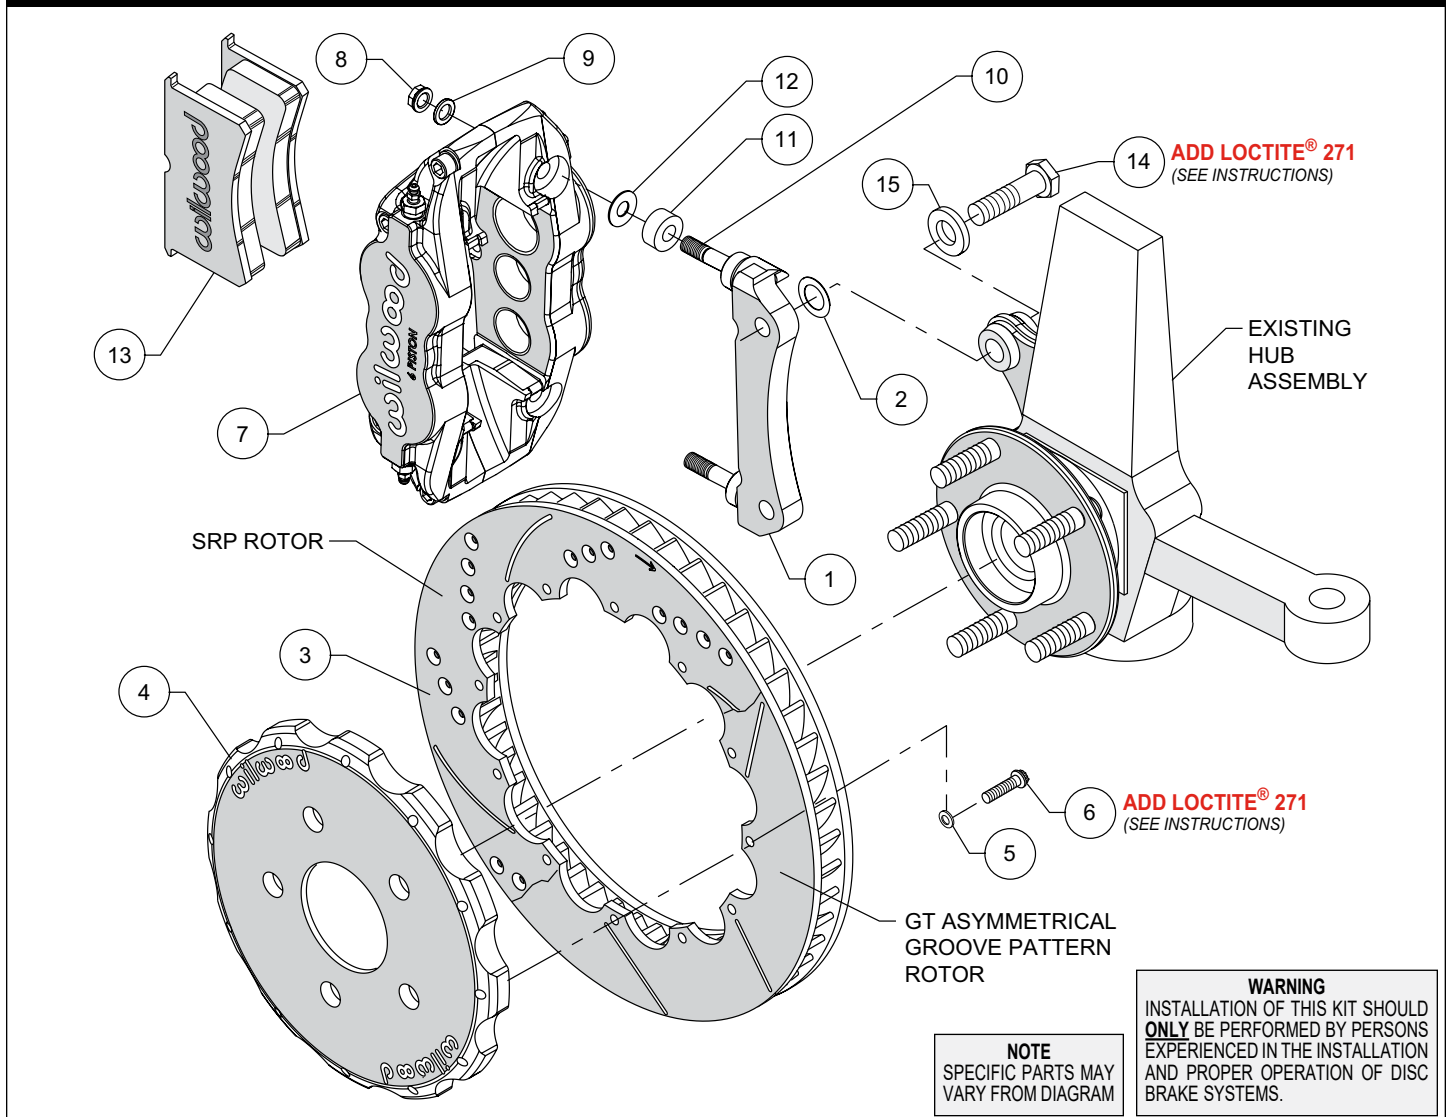
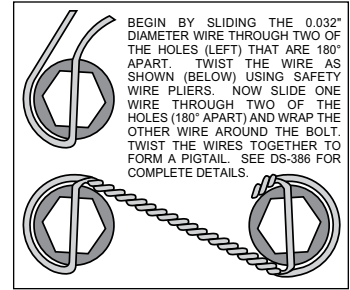

Figure 1. Typical Installation Configuration
Figure 3. Safety Wire Diagram
NOTE: Numbers in parenthesis refer to the parts list and Figure 1 on the preceding pages.
- The caliper mount bracket (1) should initially be installed with clean, dry threads on the mounting bolts. Orient the bracket, as shown in Figure 1 and install using bolts (14) and washers (15). Initially place one .029" thick shim (2) on each bolt between the bracket and upright, Figure 1. Temporarily tighten the mounting bolts. **NOTE:** The bracket must fit squarely against the mount bosses on the upright. Inspect for interference from casting irregularities, machining ridges, burrs, etc. Later, after the caliper alignment has been checked, the mount bolts will be secured using red *Loctite*® 271.
- Orient the rotor (3) and the hat (4) as shown in Figure 1 and Photo 1. Attach rotor to hat using bolts (6) and washers (5). Apply red *Loctite*® 271 to the bolt threads and torque to 155 in-lb using a criss-cross pattern. For an added measure of security, the bolts may be safety wired using standard 0.032 inch diameter stainless steel safety wire as shown in Figure 3. Refer to Wilwood's data sheet DS-386 (available at www.wilwood.com/Pdf/DataSheets/ds386.pdf) for complete safety wire installation instructions.
- NOTE:** This kit contains distinct right and left hand calipers that must be mounted in a specific direction, as described below. Initially place one .035" thick shim (12), and spacer (11) on each stud (10) as shown in Figure 1 and Photo 2. Mount the caliper (7) onto the bracket (1) using lock nuts (8) and washers (9), Figure 1. Ensure that the caliper is mounted so that the largest pistons are at the rotor exit end of the caliper, in relation to the direction of rotor rotation. Temporarily tighten the lock nuts and view the rotor through the top opening of the caliper. The rotor should be centered in the caliper, Photo 3. If not, adjust by adding or subtracting shims (2) between the bracket and the upright. Always use the same amount of shims on each of the two mounting bolts. Once the caliper alignment is correct, remove the bracket mounting bolts (14) one at a time, apply red *Loctite*® 271 to the threads, and torque to 77 ft-lb.